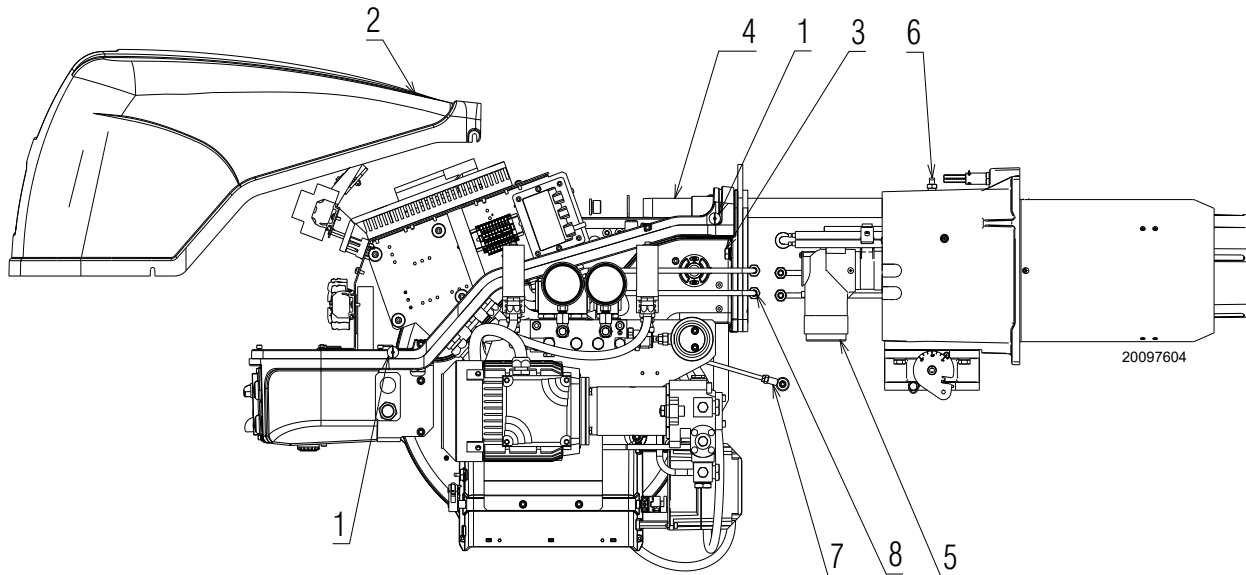

Fig. 58
Open the burner and make sure that all components of the combustion head are in good condition, not deformed by the high temperatures, free of impurities from the surroundings and correctly positioned. If in doubt, disassemble the elbow fitting 7)(Fig. 58, page 42).
- loosen screws 1)(Fig. 58) and withdraw the cover 2);